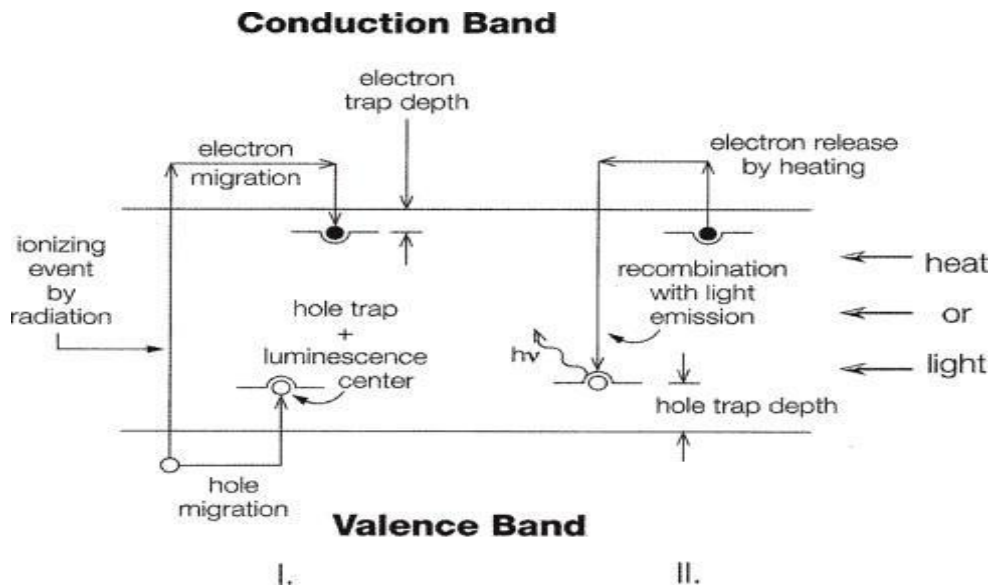

Figure 1
Thermoluminescence (TL) is a phenomenon of emission of light from a material (insulator/Semiconductor) called phosphor during heating, which has already been exposed to ionizing radiations ( $\alpha$ ,  $\beta$ , and  $\gamma$  rays). These materials consist of a crystalline dielectric material with a trace amount of an activator. The impurities create crystal-lattice imperfections inside the phosphor material and form a metastable energy level in the forbidden region (Fig. 1). When these phosphors are irradiated by ionizing radiation the electron-hole pairs are generated. These electron-hole pairs moving randomly in the phosphor can be trapped at these metastable energy levels. The number of traps in the phosphor material is directly related to the amount of radiation given to the material.